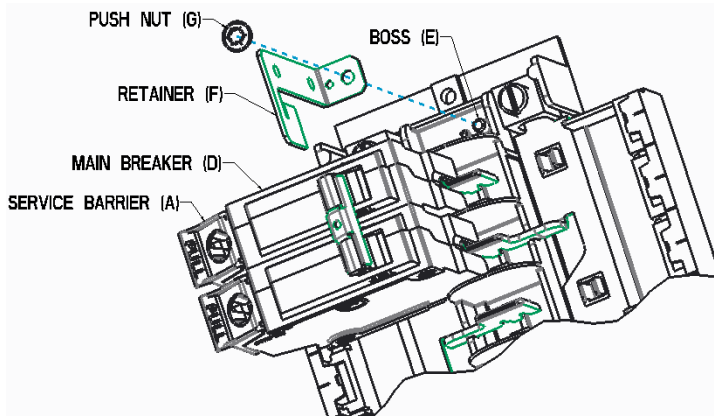

Figure 2: Install Retainer to Secure Breaker
3. Install the 2-pole back-fed main circuit breaker (D) in position shown in Figure 2.